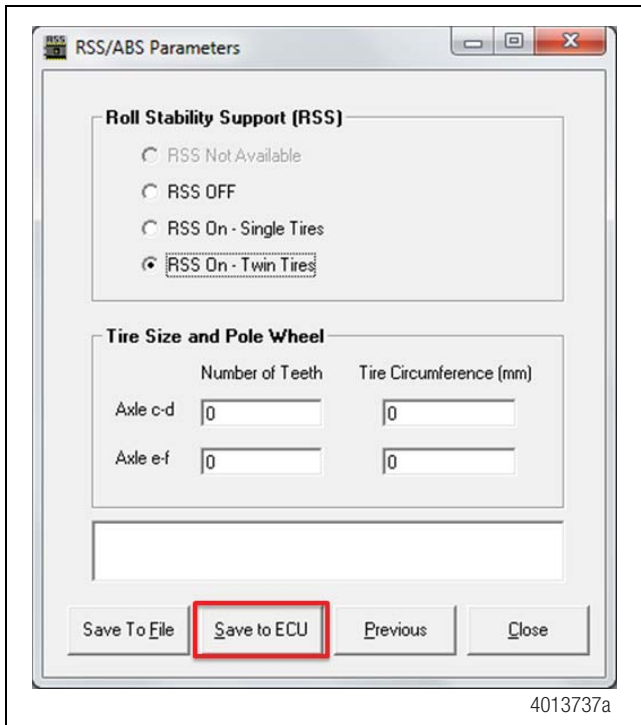

Figure 9
- From the RSS/ABS Parameters screen, ensure that one of the RSS On options is selected, then press the **Save to ECU** button at the bottom of the screen. Figure 9.